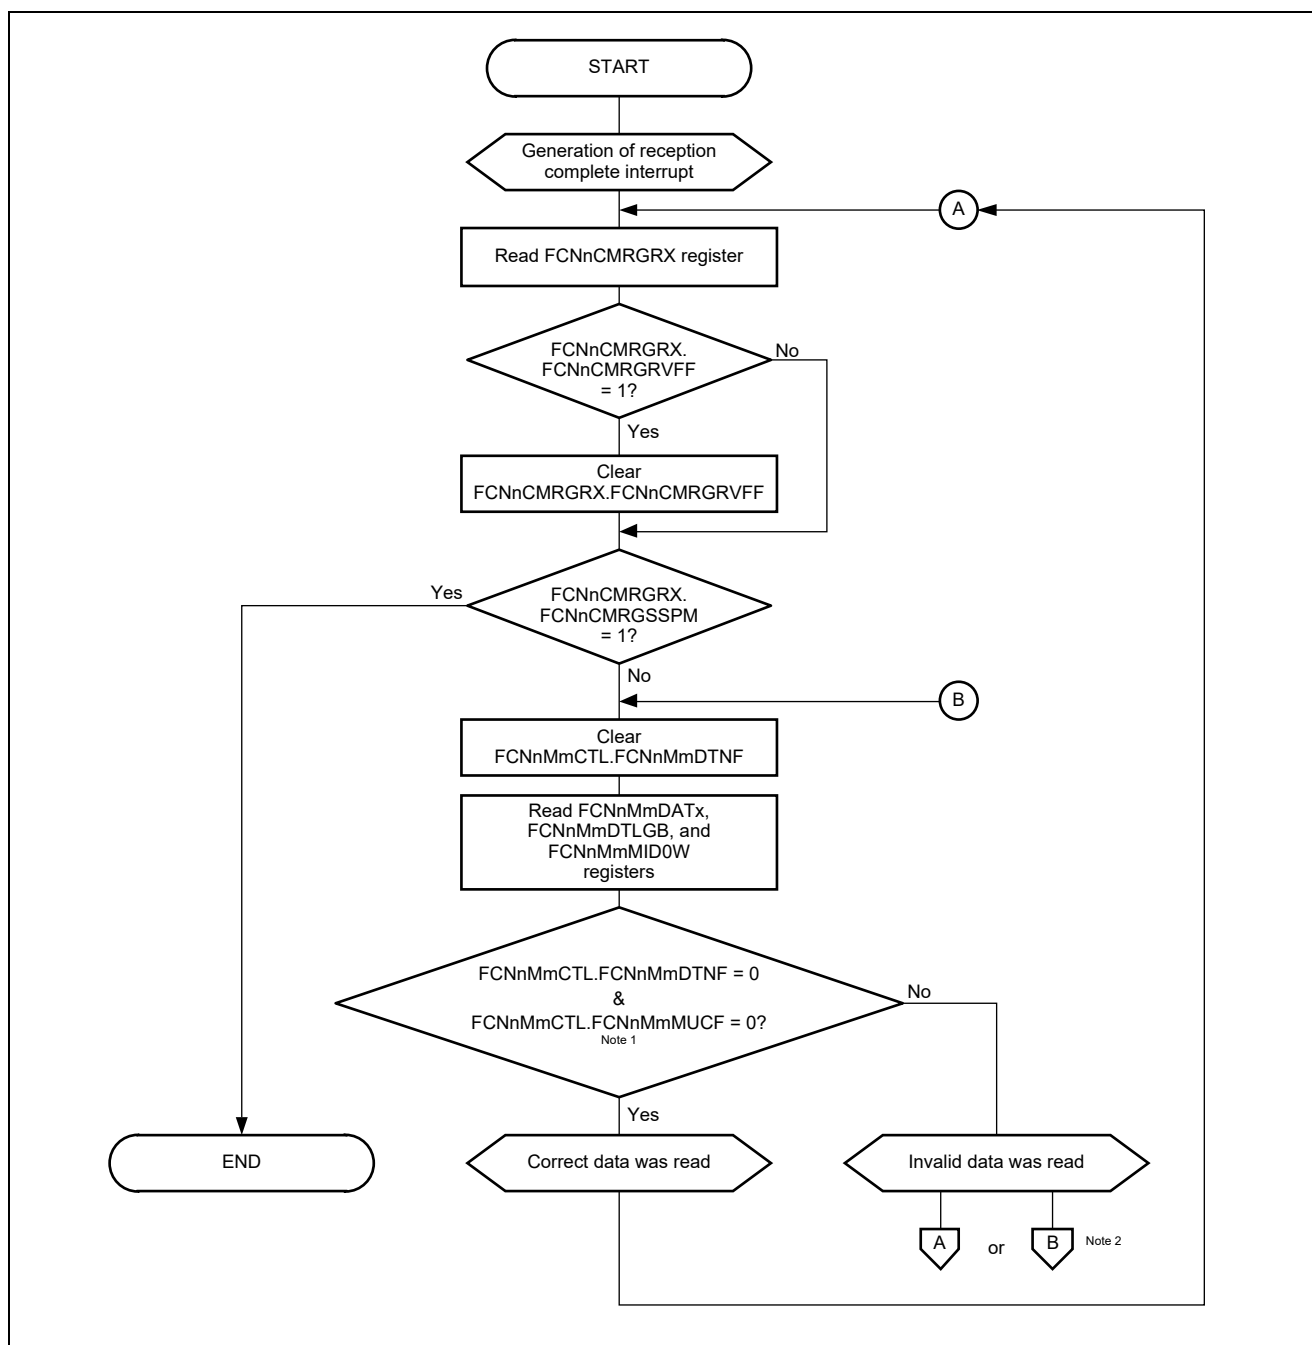
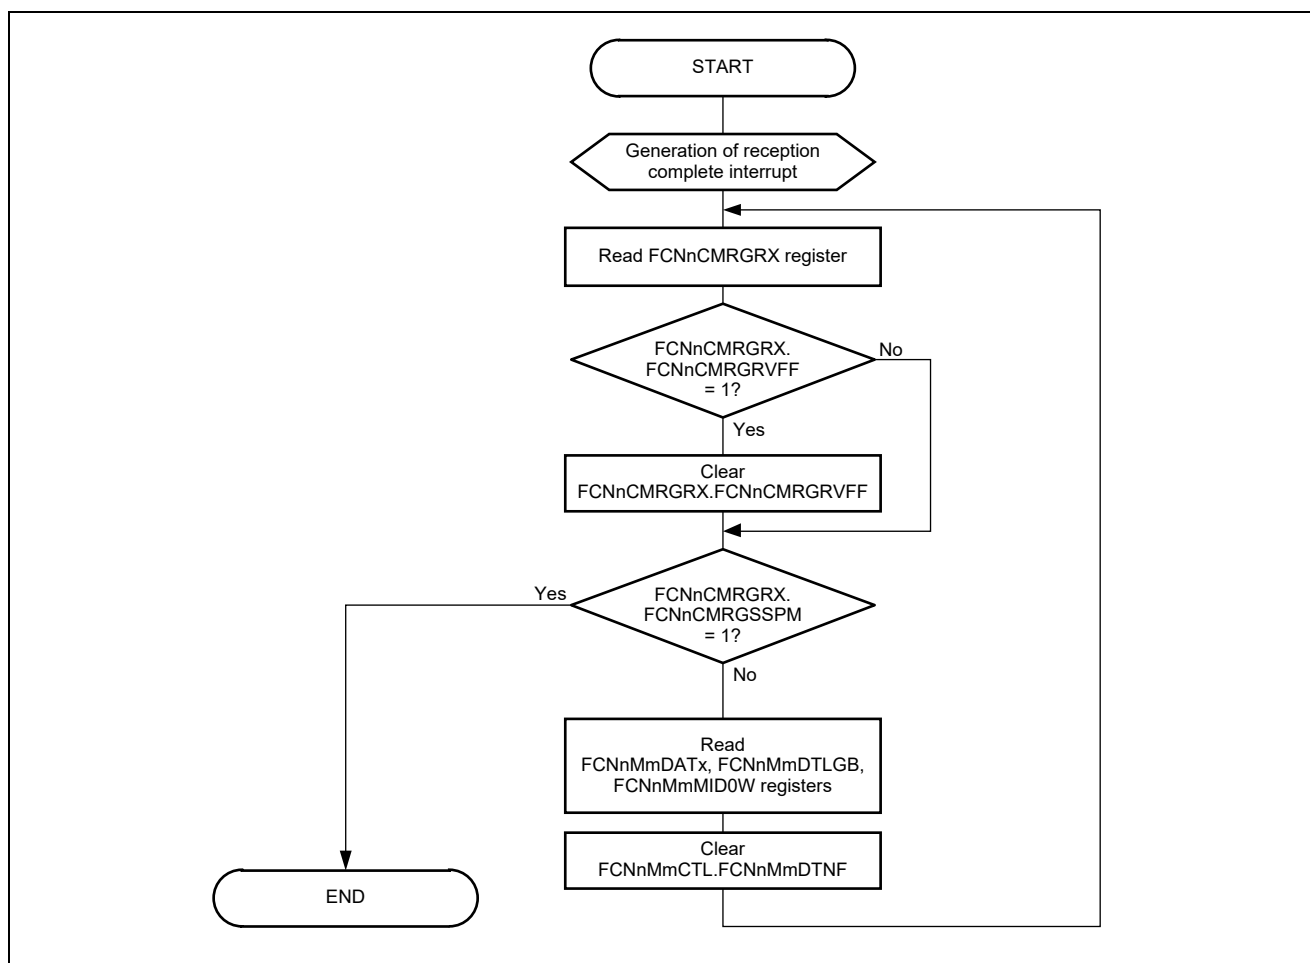

Figure 25.32 Reception via Interrupt (Using FCNnCMRGRX Register)
Figure 25.33 Another Way of Reception via Interrupt (Using FCNnCMRGRX Register)
5. Instead of the processing shown in Figure 25.32, Reception via Interrupt (Using FCNnCMRGRX Register), the processing shown in Figure 25.33, Another Way of Reception via Interrupt (Using FCNnCMRGRX Register), can be used.